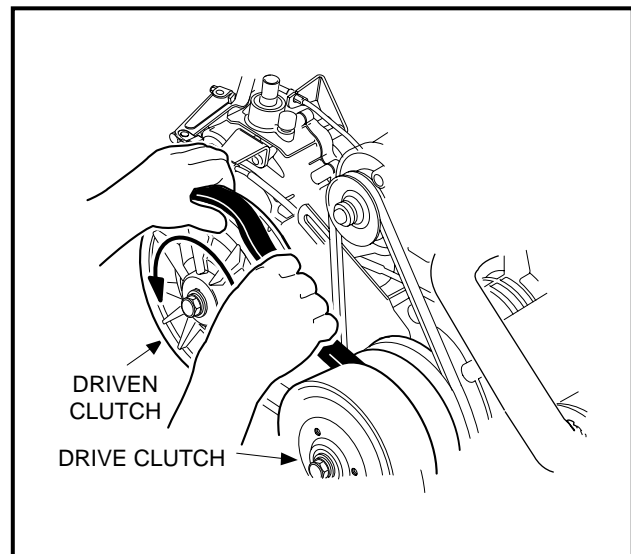

Figure 16-28 Remove Drive Belt
- 15.1. Grasp belt midway between drive and driven clutch and pull up on belt to force the driven clutch sheaves apart. Roll the belt counterclockwise while pulling it off driven clutch (**Figure 16-28, Page 16-12**).